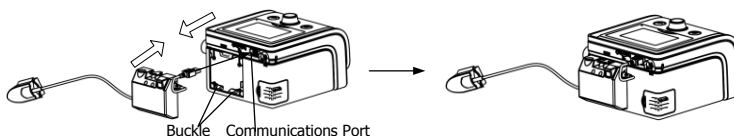

Fig. 11-12
(3) Point the two **Buckles** at the back of the SpO2 Kit adapter towards the two buckles of the base plate, and push until the two units click into place. Insert the SpO2 Kit connector into the **Communications Port** of the main device, as shown in Fig. 11-12.